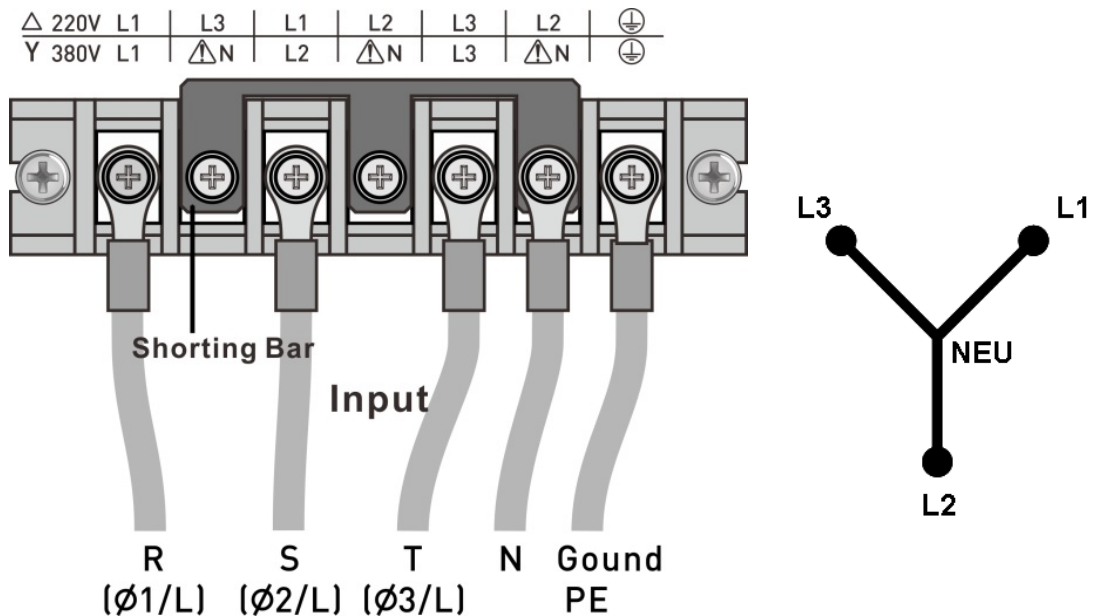
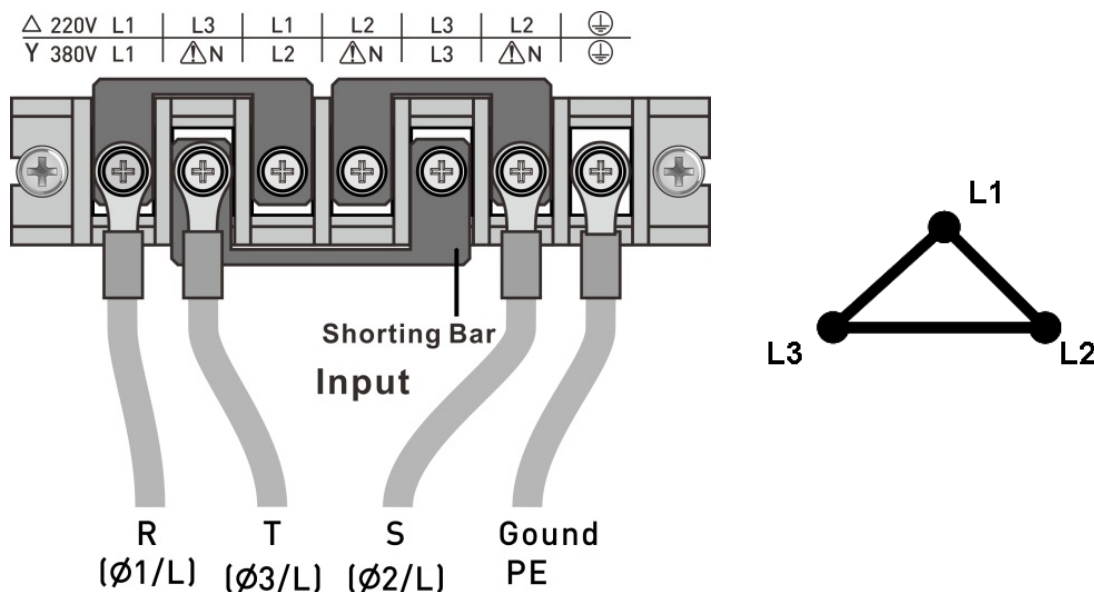

Figure 2-1 3-Phase 380V Power Input Connection (Y Connection)
Figure 2-2 3-Phase 220V Power Input Connection (Delta Connection)
2. Connect the wires to the AC Source terminal blocks (see Figure 2-1 and Figure 2-2).